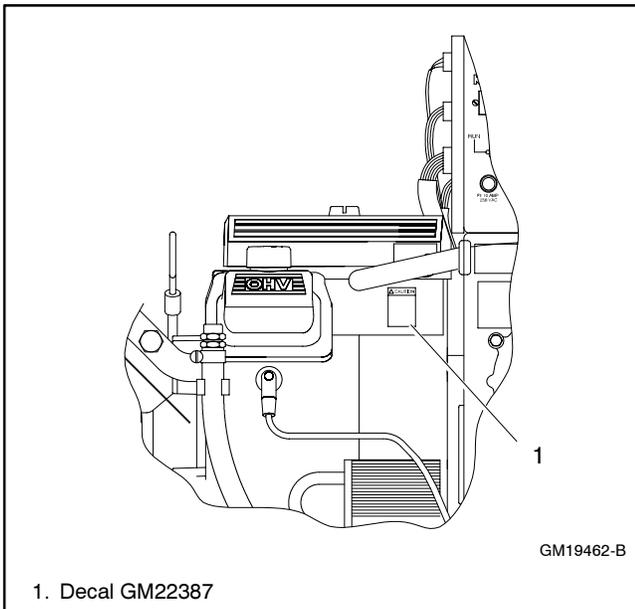

Figure 16 Caution Decal Location
5. Attach the decal, GM22387, near the air cleaner as shown in Figure 16.